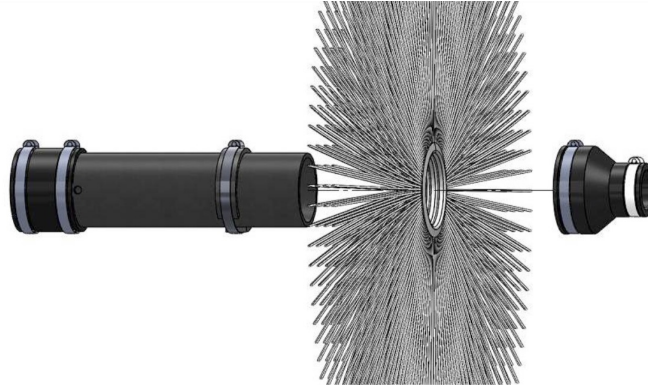

Figure 16: Assembling the brushes and rubber coupler onto the tail section.
2. Slide the drag brush(es) onto the detached tail section and attach the rubber reducer coupler over the end of the tail (Figure 16). Ensure that the brushes are adjacent to the plastic stop on the tail. If necessary, you can adjust the location of the plastic stop by loosening the stop's hose clamp and sliding the stop along the tail. Remember to retighten the hose clamp on the stop ring and the rubber coupler.